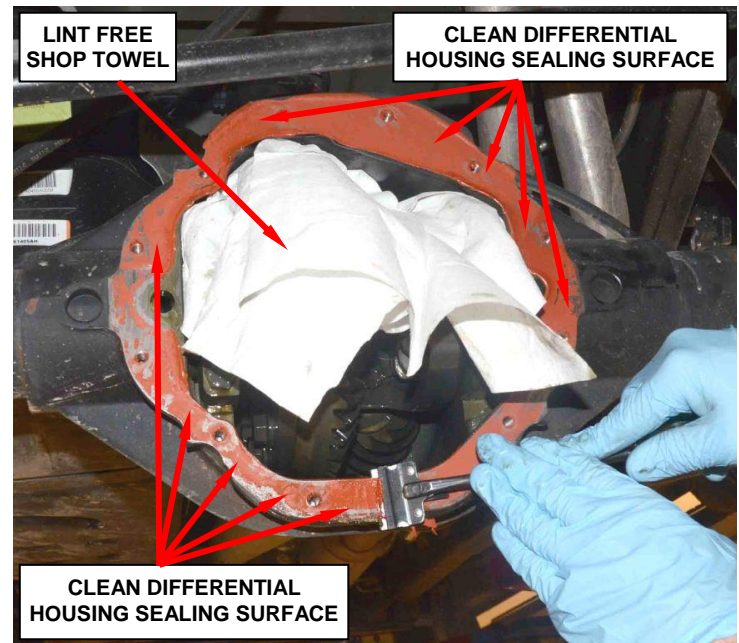

Figure 10 – Clean Differential Housing Sealing Surface
22. Using a lint free shop towel, cover the ring gear to protect the internal axle components from debris (Figure 10).
23. Clean the differential housing sealing surface (Figure 10).